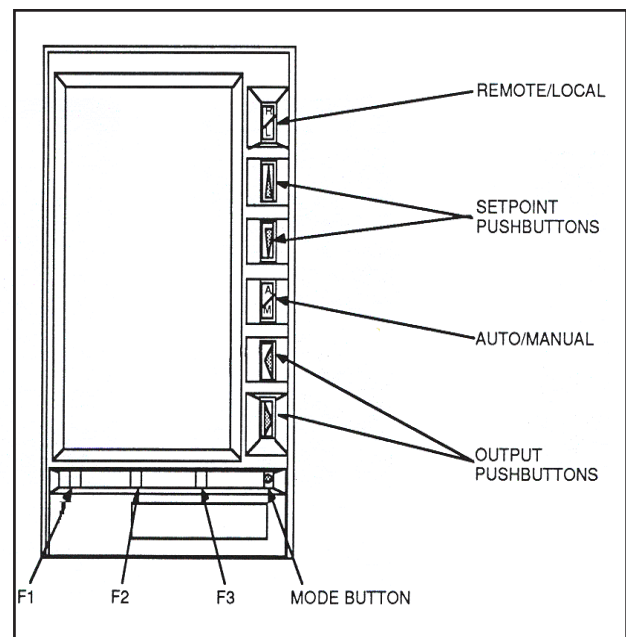

Figure 2: MC5000 Operator Keys
The controller front panel has ten (10) functional pushbuttons (see Figure 2). The function of each of these pushbuttons is determined by the type of display currently selected and the mode of operation.